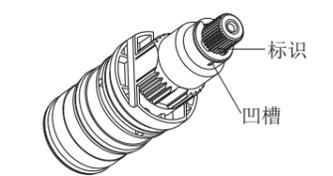

Fig.5
**注意:** 确保拆卸、安装过程中不要转动温控阀轴。如不小心转动了阀轴, 要调整阀轴使外齿上的标识与相邻的塑料套上的凹槽对齐(Fig.5), 或者按前述方法进行调整。
**NOTE:** Do not turn the cartridge when reinstalling it. If you turned it accidentally, you should adjust it and be sure that the mark is correctly in line with the groove (Fig.5), or readjust as per the steps of verification and setting.